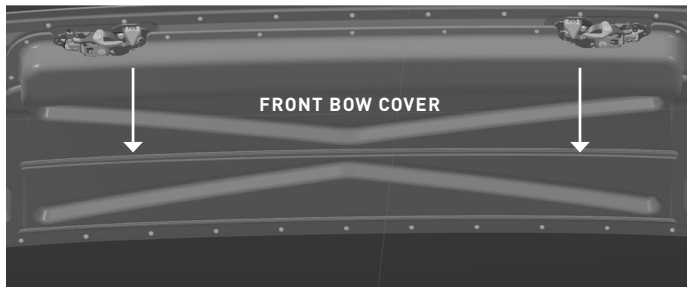

Fig. 12
- Remove the 9 screws and take off the front bow cover (Fig. 12).